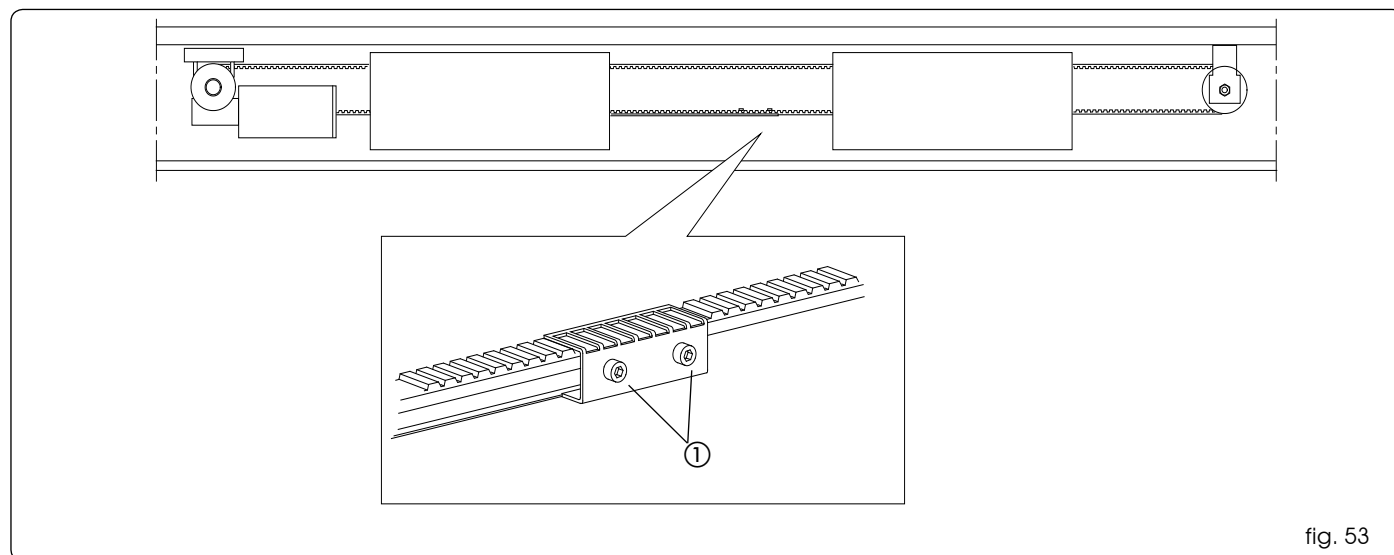

fig. 53
The activation module is supplied with only one drive rod secured to the belt, always connected to the lower section and facing left (fig. 53).
For single leaf left-opening doors, the two securing screws must be loosened (fig. 53 ref. ①) and the drive rod must be manually taken to the right.